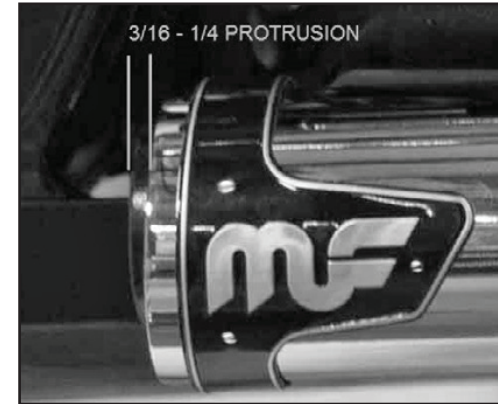

Fig. 10
- Adjust the exhaust system as necessary and tighten all of the bolts and clamps making sure that the muffler ends protrudes the heat shields approximately 3/16 to 1/4 inches. (Figure 10)